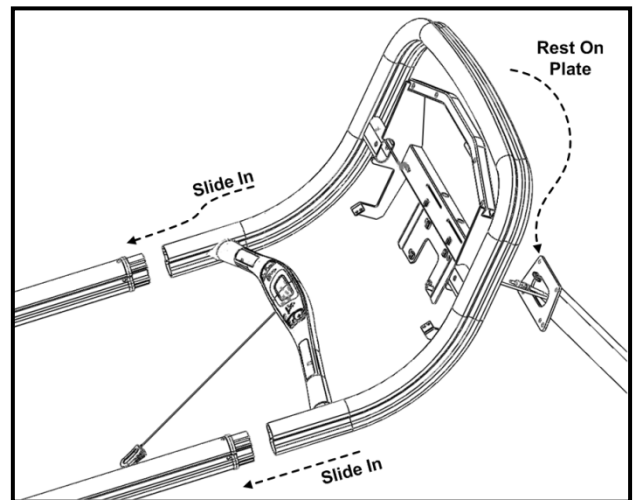

Fig. 11
11. Slide the console frame onto each upper handrail (Fig. 11) and rest the center of the console frame on top of the neck mast plate.